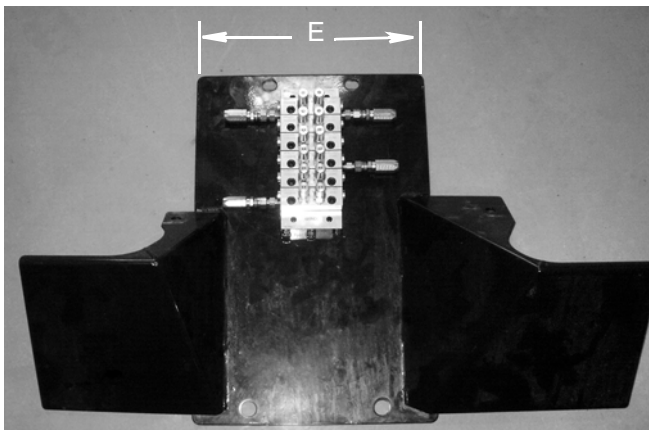

FIG. 19: Center Master Divider Valve on Panel
2. **HM300-5 Models:** Center the Master Divider Valve (left to right) on the access panel and 1.75 inches (44.45 mm) from the top of the panel as shown in FIG. 19 and FIG. 22.